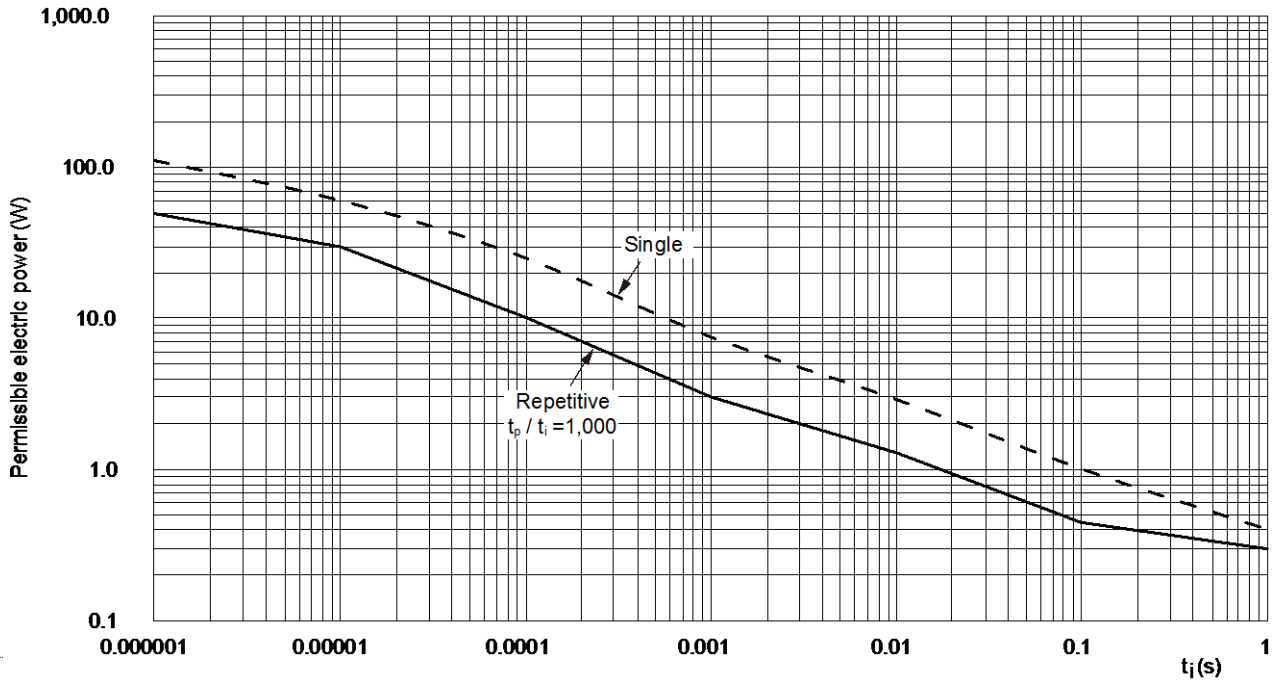
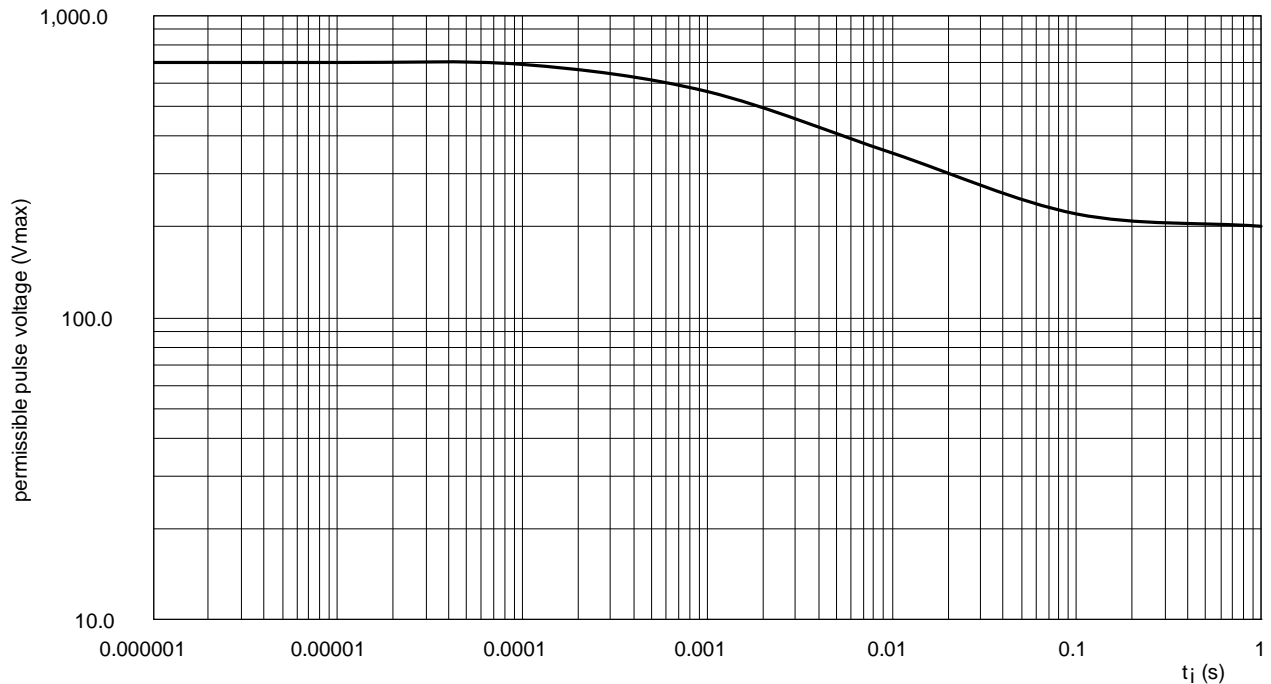

Fig. 12 Maximum permissible peak pulse power as a function of pulse duration  $t_i$ , single pulse and repetitive pulse  $t_p / t_i = 1,000$
Fig. 13 Maximum permissible peak pulse voltage as a function of pulse duration  $t_i$
The dashed line in Fig. 12 shows the observed maximum load for the Size 1206 chip resistors under single-pulse loading.
However, maximum peak pulse voltages as indicated in Fig. 13, should not be exceeded.
The graphs in Figs 12 and 13 may be used to determine the maximum pulse-load for a resistor.
- $\frac{\hat{V}_i^2}{R}$  must be lower than the value of  $\hat{P}_{max}$  given by the solid lines of Fig. 12 for the applicable value of  $t_i$  and duty cycle  $t_p/t_i$ .
- $\hat{V}_i$  must be lower than the value of  $\hat{V}_{max}$  given in Fig. 13 for the applicable value of  $t_i$ .
- $\frac{\hat{V}_i^2}{R}$  must be lower than the  $\hat{P}_{max}$  given by the dashed line of Fig. 12 for the applicable value of  $t_i$ .
$\hat{P}_{max}$	maximum permissible peak pulse power (Fig.12)
For  $t_i = 10^{-5} \text{ s}$  and  $\frac{t_p}{t_i} = 1,000$ , Fig. 12 gives
$$\hat{P}_{max} = 2 \text{ W and Fig. 13 gives } \hat{V}_{max} = 400 \text{ V}$$
The dashed curve of Fig. 12 shows that at  $t_i = 10^{-5} \text{ s}$ , the permissible  $\hat{P}_{max} = 10 \text{ W}$  and Fig. 13 shows a permissible  $\hat{V}_{max}$  of 400 V, so this resistor may be used.